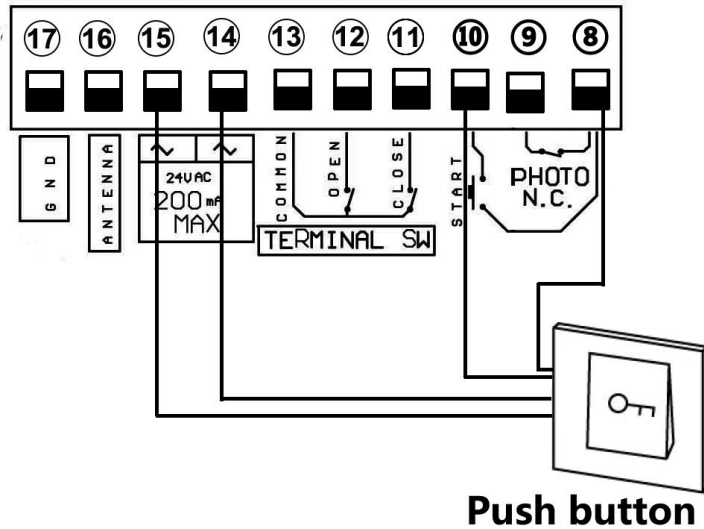

Fig 11
6.5. Connect to open device. (Please see Fig 11)